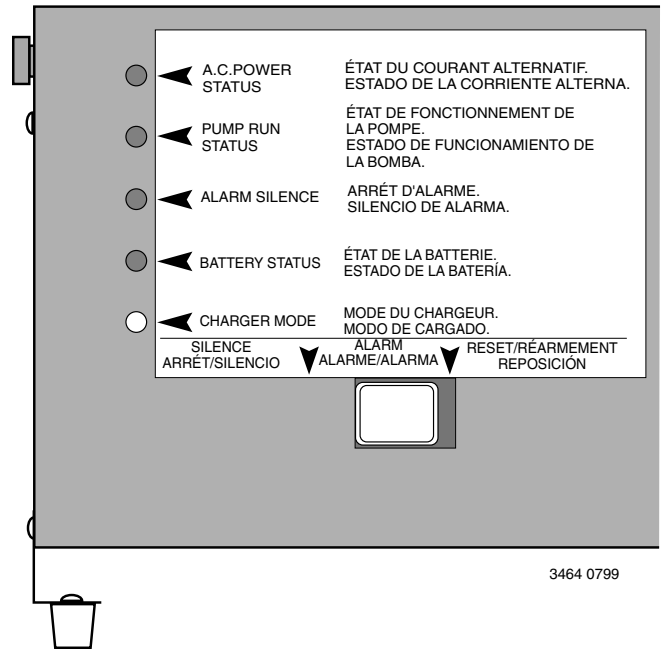

Figure 12 – MBSP-PLUS-18T LED Panel
3. With the charger properly connected and plugged in, the panel on the front of the charger will show one or more of the following conditions (See Figure 12).